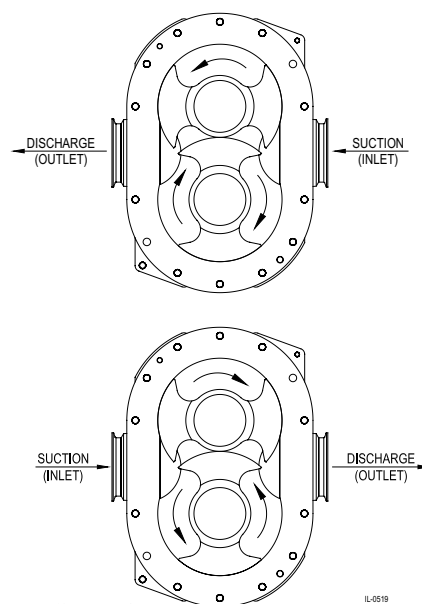

Figure 9
4. Check for proper pump and drive rotation (*Figure 9*). Make sure that the pump is flooded with product when checking the rotation. Running the pump dry even momentarily can cause seal damage.